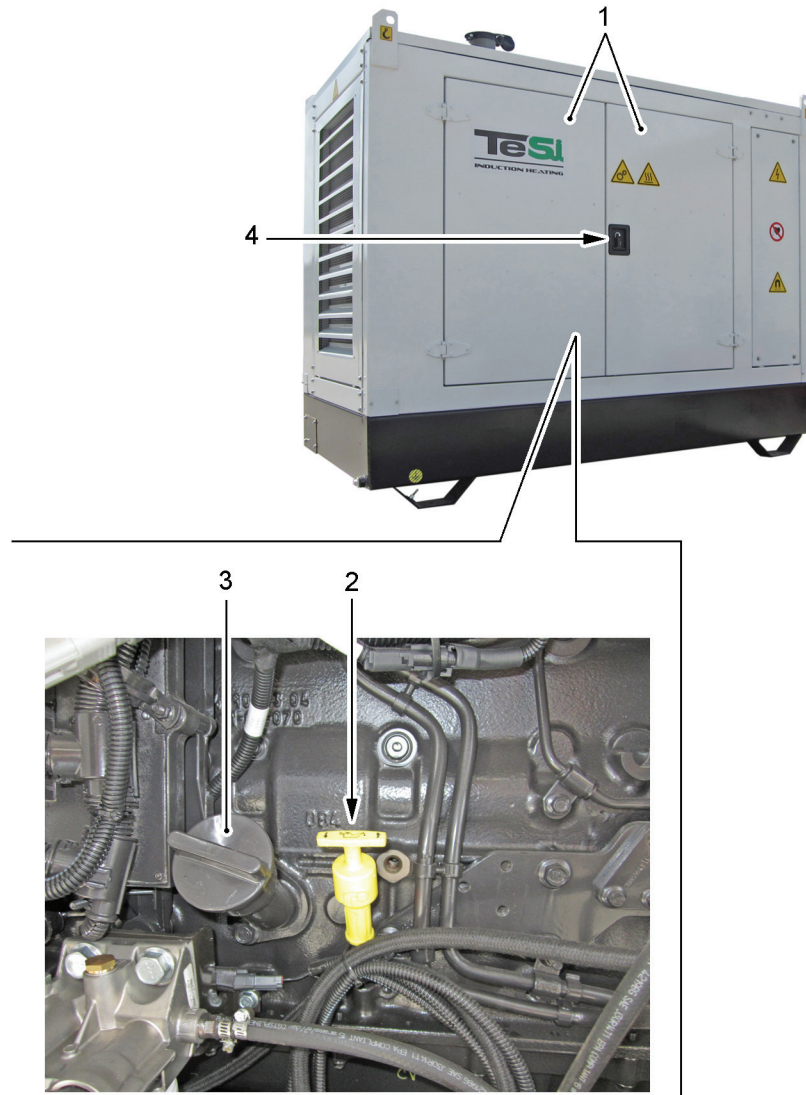

Figure 7.6 - Check the engine oil correct level and top it up, if necessary
- open the access door to the engine (see Figure 7.6/1), which is situated on the rear part, by acting on the relevant handle (4), after having removed the locking padlock, in order to make it possible to accede to the oil level measuring dipstick (2), as well as to the engine oil filler cap (3);